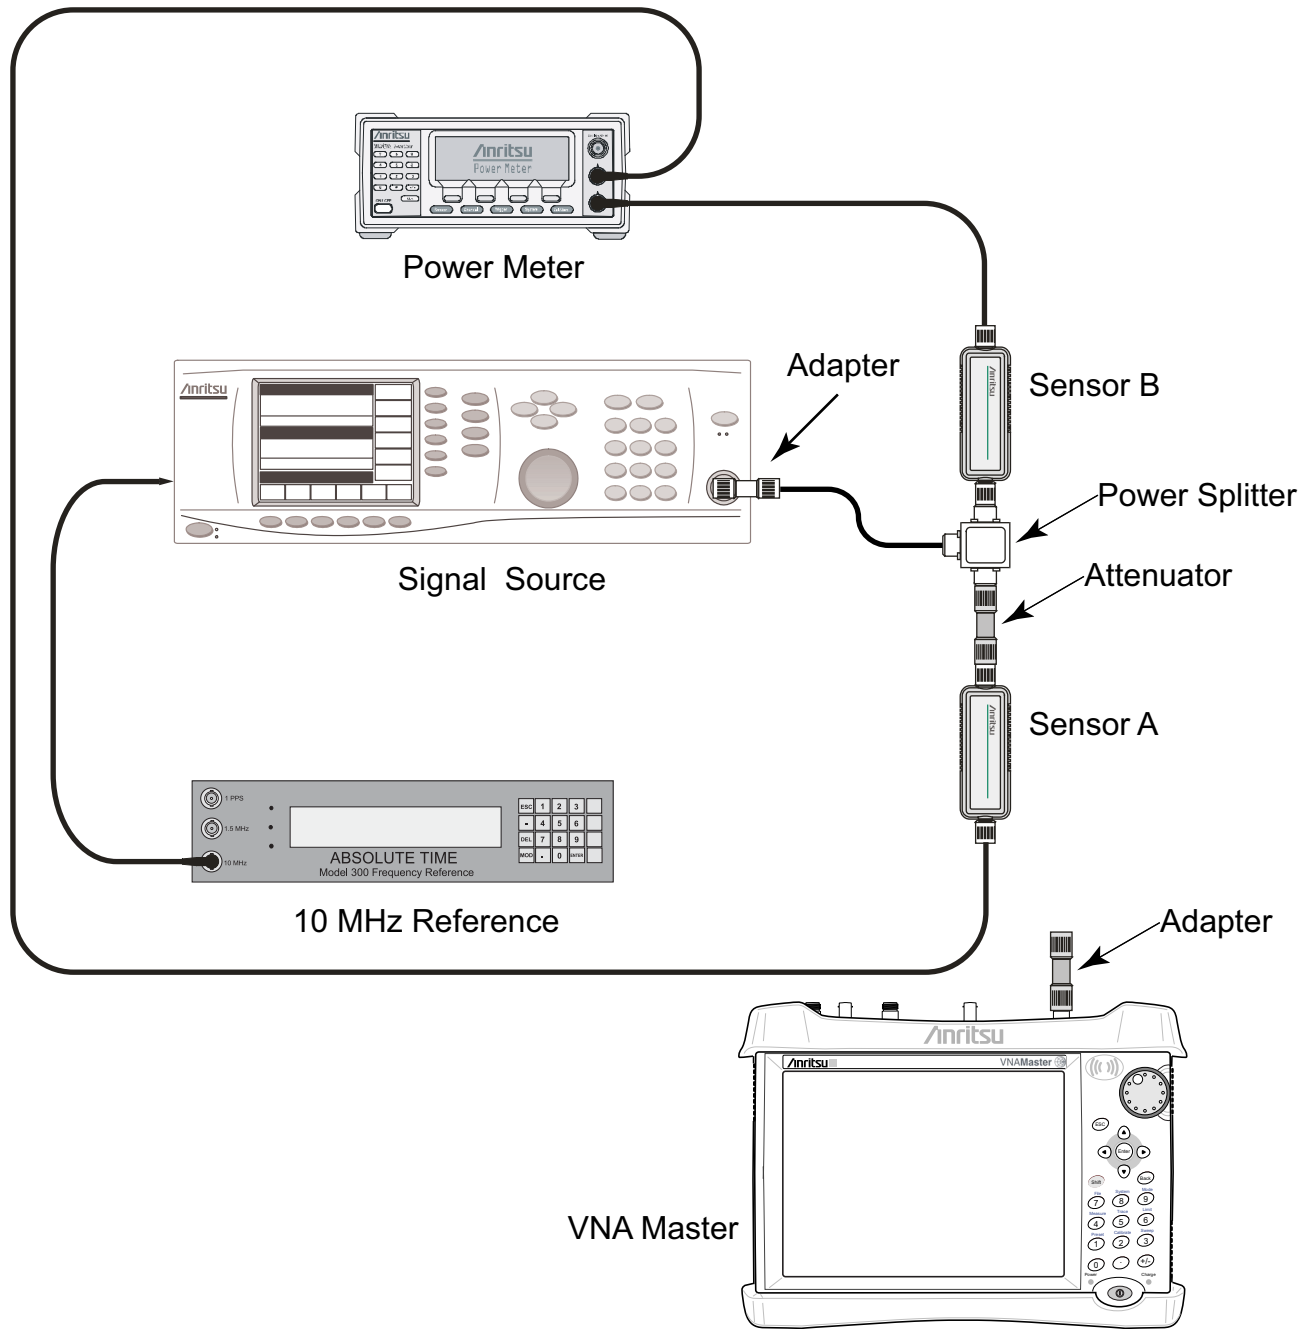

Figure 3-4. Absolute Amplitude Accuracy Verification Pretest Setup
6. Install the 10 dB Fixed Attenuator to the other Power Splitter output and then connect Sensor A to the end of the attenuator as shown in Figure 3-4.
15. Connect the open end of the 34NN50A Adapter to the RF In connector of the VNA Master as shown in Figure 3-4.